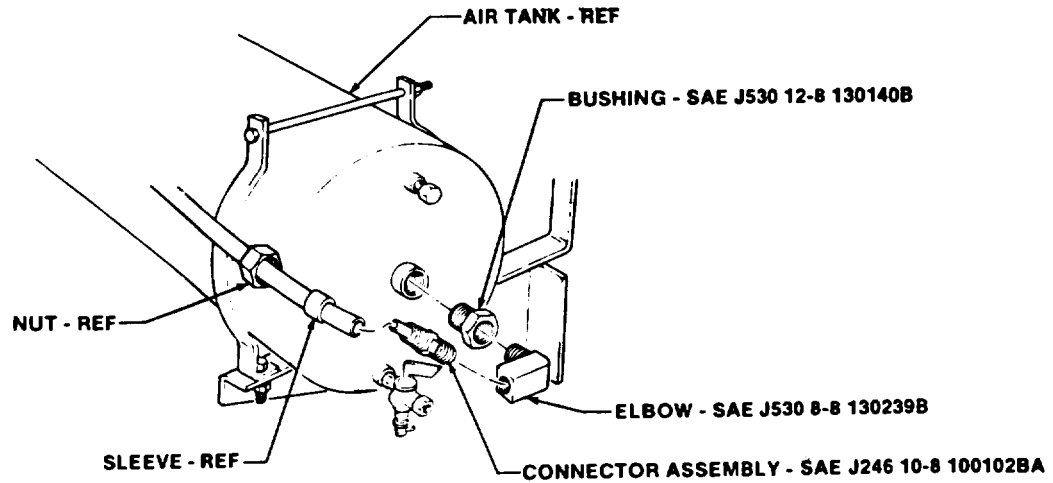

FIGURE 4
(6) Install SAE J530 12-8 130140B bushing in air tank as shown in figure 4.
(7) Install SAE J530 8-8 130239B elbow in bushing on air tank as shown in figure 4.
(8) Install SAE J246 10-8 100102BA connector assembly in elbow as shown in figure 4. Retain sleeve and nut for use in paragraph b. step 8.